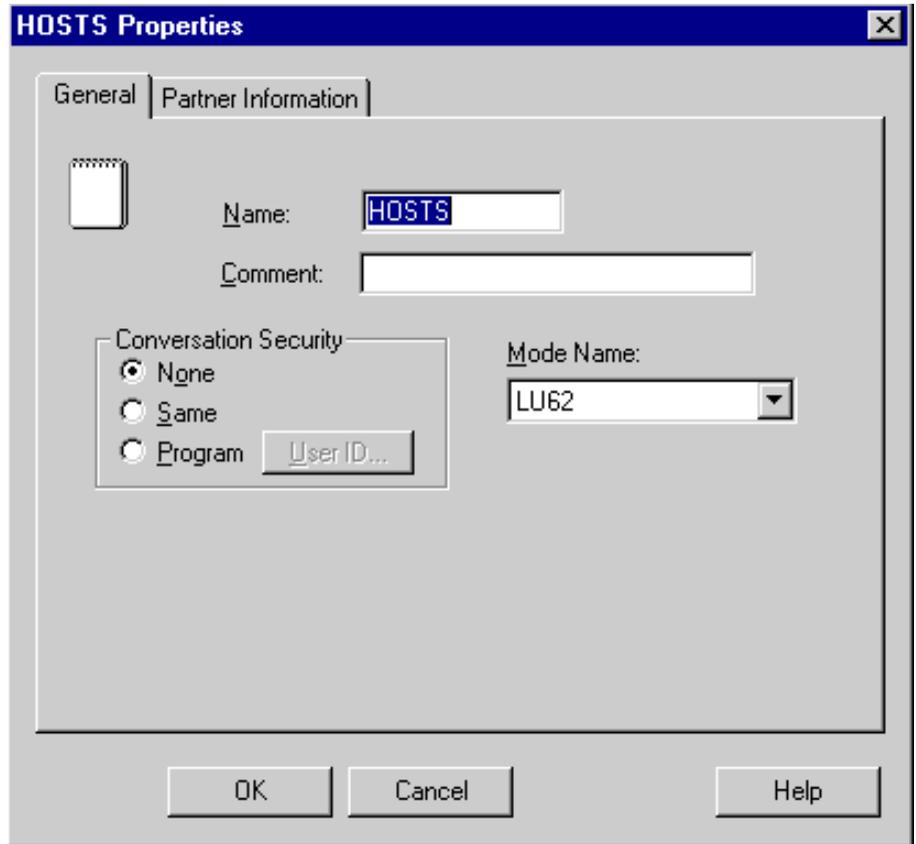

Figure 62. Configuring CPI-C properties: general page for HOSTS
- 8 On the General page, enter **HOSTS** in the Name field, as the CPI-C Symbolic Destination Name, as shown in Figure 62.